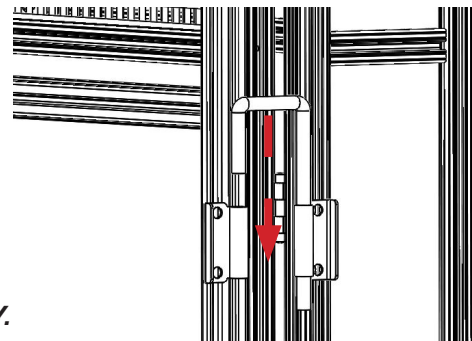

FIGURE 2.7 - Retaining Pin
STEP 4: Rotate and slide the retaining pin into the pin receiver and lower the front casters. Repeat for both the right and left sides. See FIGURE 2.7